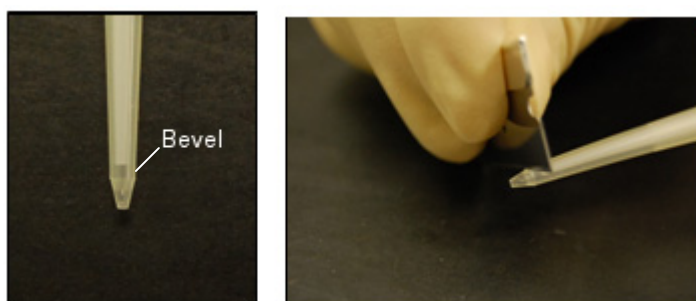

Figure 14 Cutting the Combitip Plus tip for emulsion dispersion.
10. Remove a 5-mL Combitip Plus tip from its packaging, then cut off its end at the bevel with a razor blade (see Figure 14).